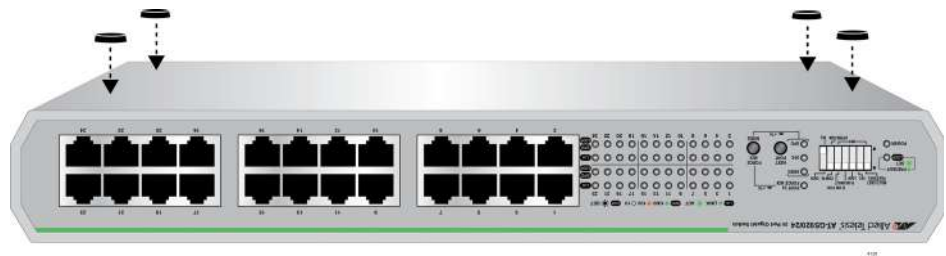

Figure 11. Installation of Rubber Feet
3. Install the four rubber feet with the four screws provided on the bottom of the switch chassis. See Figure 11.